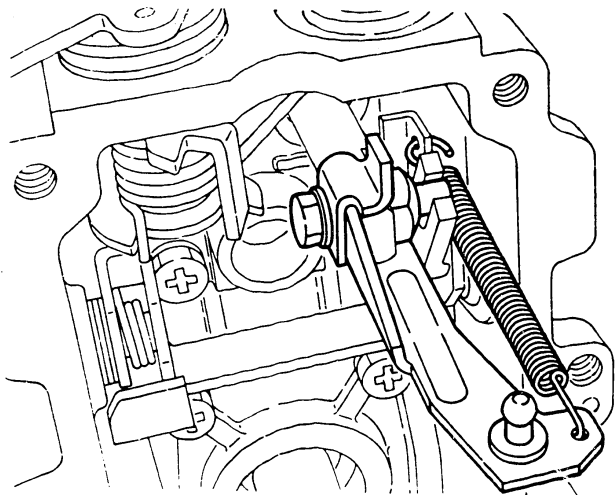

Fig. 119 Start spring
3. The start spring is set in position with its hook securely fitted from above in the hook hole of the rack connecting link. (Fig. 119)